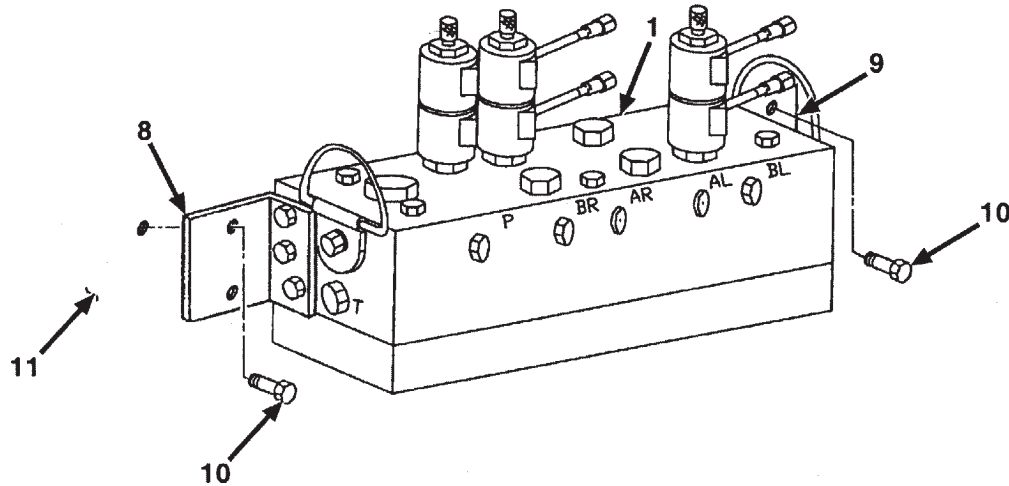

Figure 77. Rear Fuel Tank Strap.
Step 7 and 8 applies to Figure 77.
7. Use suitable lifting device to support track and blade manifold (item 1) and remove two screws (item 10) from front manifold mount (item 8) and hull (item 11).
8. Remove two screws (item 10) from rear manifold mount (item 9) and hull (item 11).